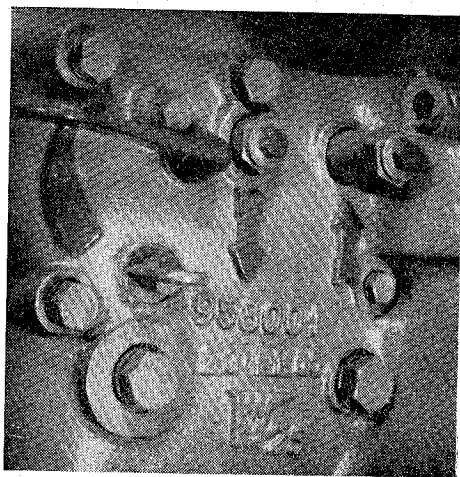

Fig. 51
- reaction speed control lever (Fig. 51).